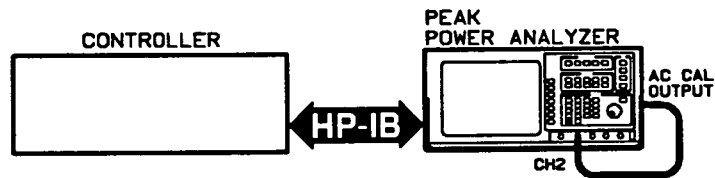

Figure 2-14. Channel 2 Delay Calibration Setup
5. Connect the equipment as described on the screen and shown in figure 2-14.